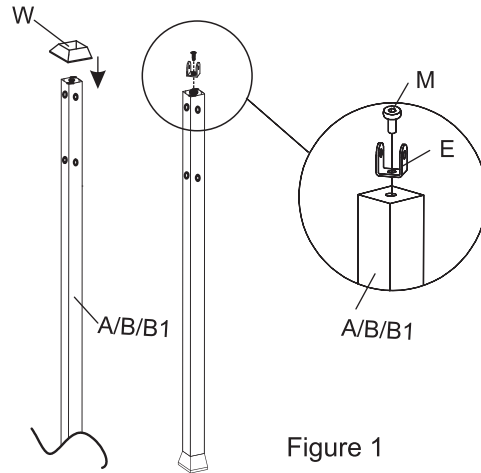

Figure 1
Slide the four Leg Caps (W) onto each Pillar (A/B/B1). Attach the U-Shaped Connector (E) to the top end of each Pillar (A/B/B1), using Bolt (M). Repeat this step 4 times as shown in Figure 1.